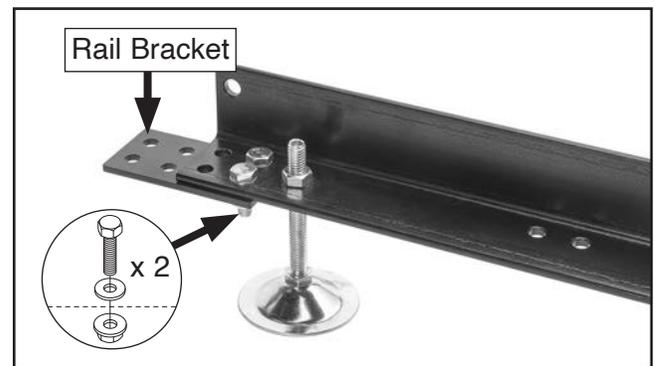

Figure 17. Rail bracket attached to front right rail.
5. Attach (1) rail bracket to front right rail with (2) M10-1.5 x 30 hex bolts, $\frac{3}{8}$ " flat washers, and M10-1.5 flange nuts (see **Figure 17**).